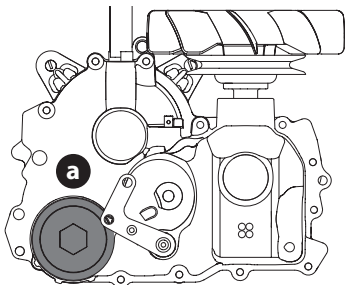

Fig. 39
2. Place a suitable container under the oil filter cover (a) on the transmission. Remove the oil filter cover from the transmission to drain the oil (Fig. 39). Remove and discard the O-ring.
4. Replace new filter and fit new O-ring onto filter cover (a) (Fig. 39).